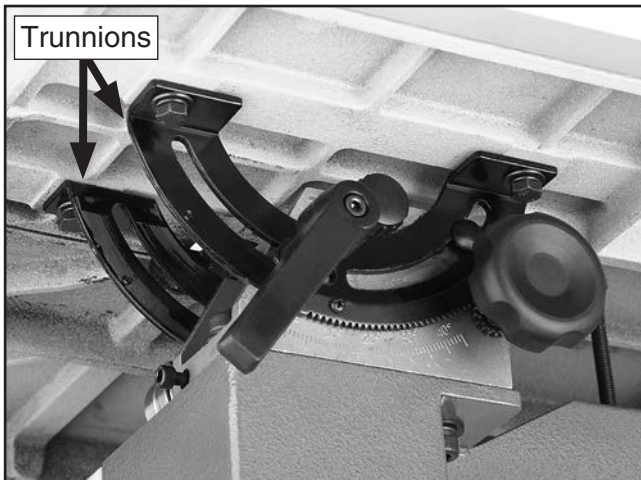

Figure 25. Mounting the table.
- Model G0514X:** Secure the table to the trunnions, as shown in **Figure 25** with the (4) M8-1.25 x 16 hex bolts, 8mm lock washers, and 8mm flat washers.